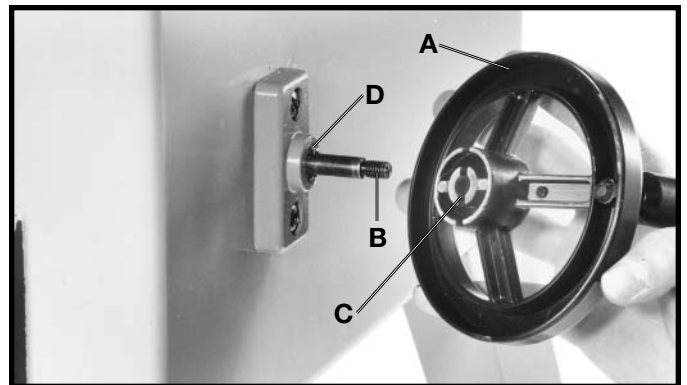
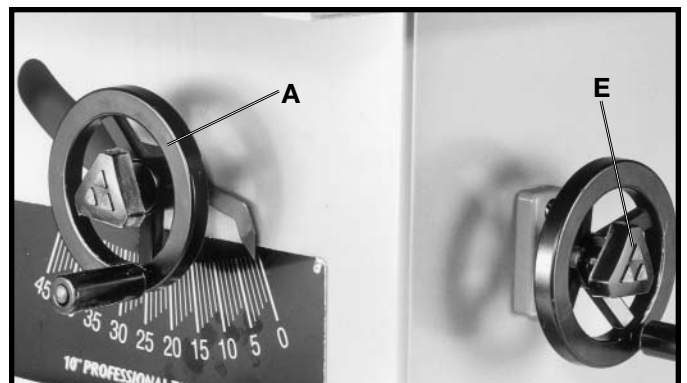

Fig. 11
Fig. 12
1. Place blade tilting handwheel (A) Fig. 11, onto shaft (B). Make certain slot (C) in handwheel is engaged with roll pin (D) on the shaft. Place a 10mm flat washer onto shaft (B) Fig. 11. Thread locking knob (E) Fig. 12, onto shaft (B) Fig. 11.
2. Assemble the blade raising handwheel (A) Fig. 12, to the front of the saw in the same manner.